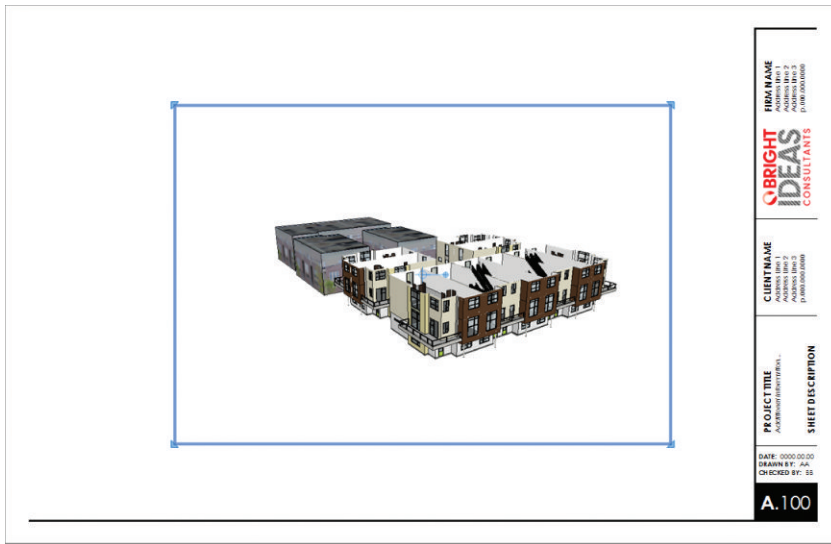

Figure 14.1 The new viewport created within LayOut
3. Click on the Open button at the bottom-right corner of the dialog box. The SketchUp model will be inserted into a viewport in your LayOut presentation (Figure 14.1).